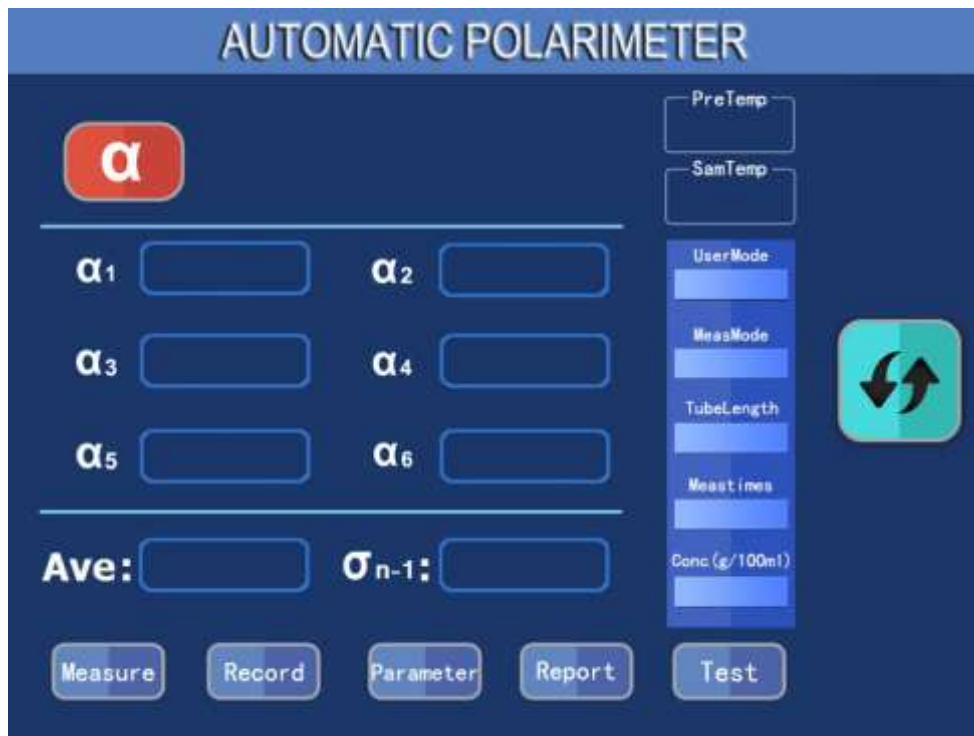

Figure 3
1. **ENTER THE INITIAL PAGE (FIGURE 3)**